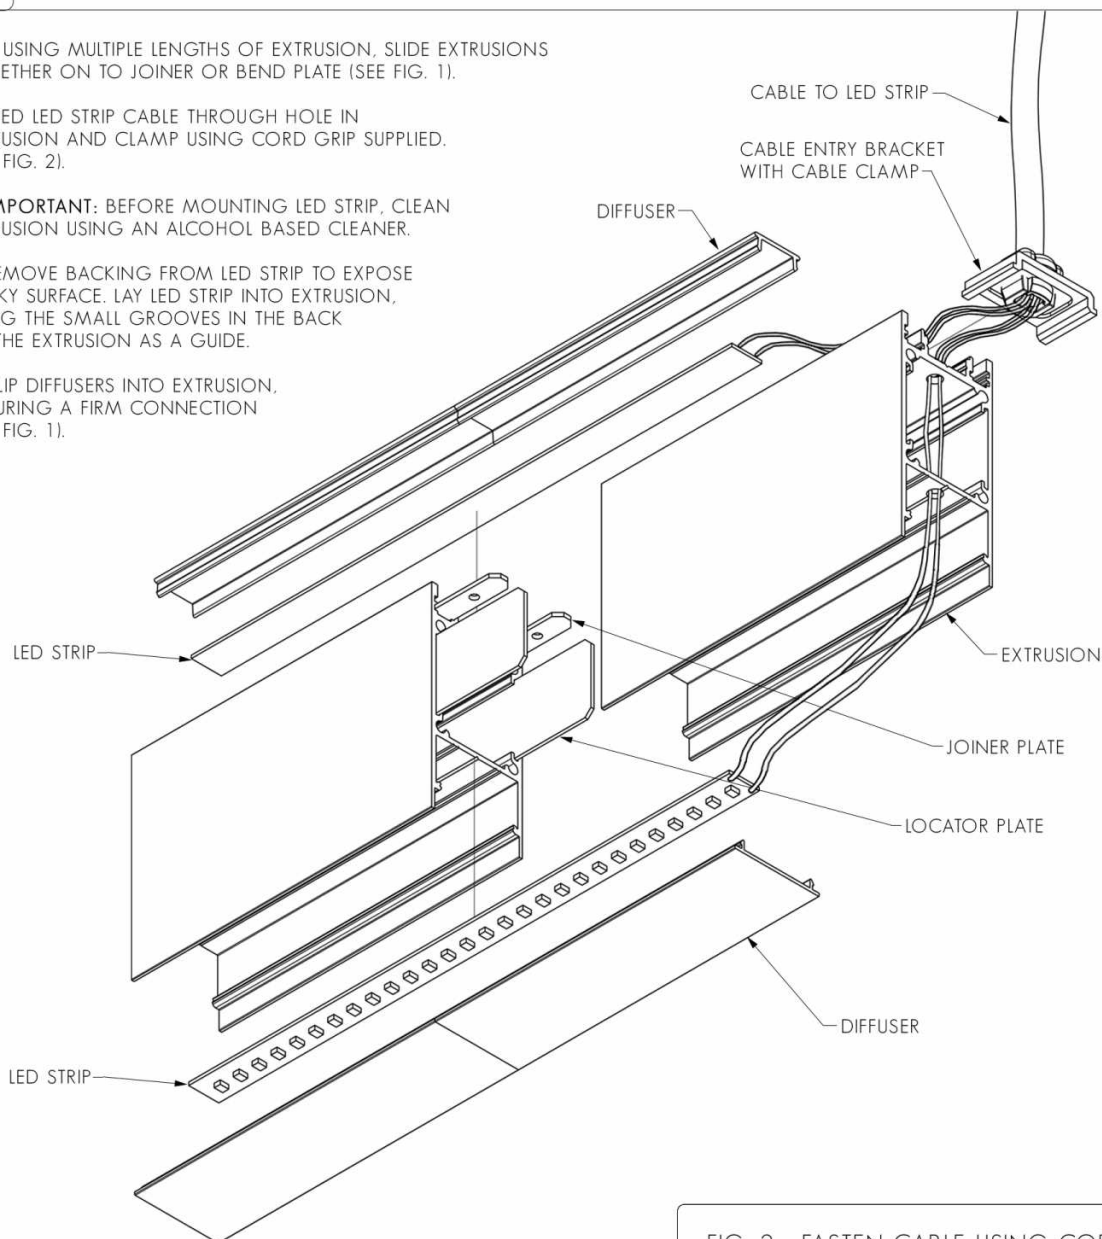

FIG. 1 - ENSURE DIFFUSER IS MOUNTED SECURELY
1. IF USING MULTIPLE LENGTHS OF EXTRUSION, SLIDE EXTRUSIONS TOGETHER ON TO JOINER OR BEND PLATE (SEE FIG. 1).
5. CLIP DIFFUSERS INTO EXTRUSION, ENSURING A FIRM CONNECTION (SEE FIG. 1).